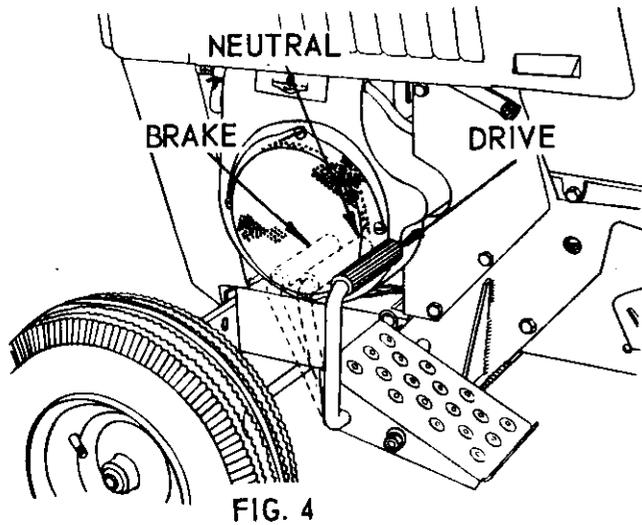
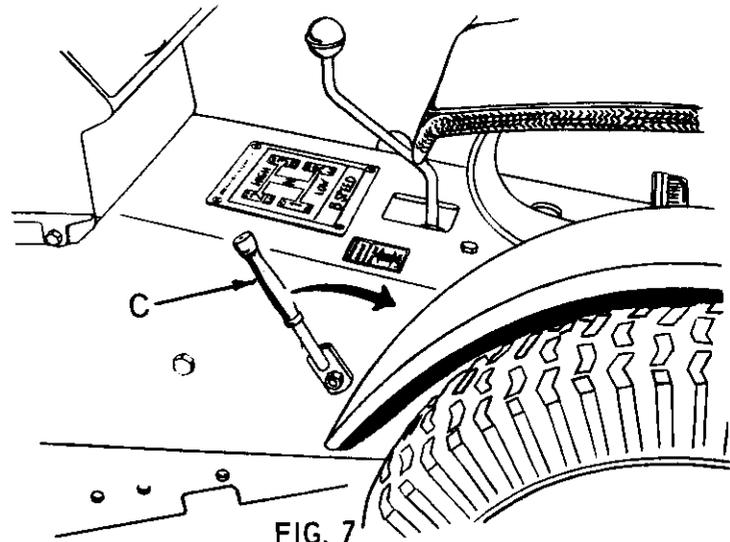

FIG. 4
FIG. 7
3. Depress foot pedal, refer to Fig. 4, to neutral position. THIS IS ESPECIALLY HELPFUL IN COLD WEATHER. Release park brake (C, Fig. 7).